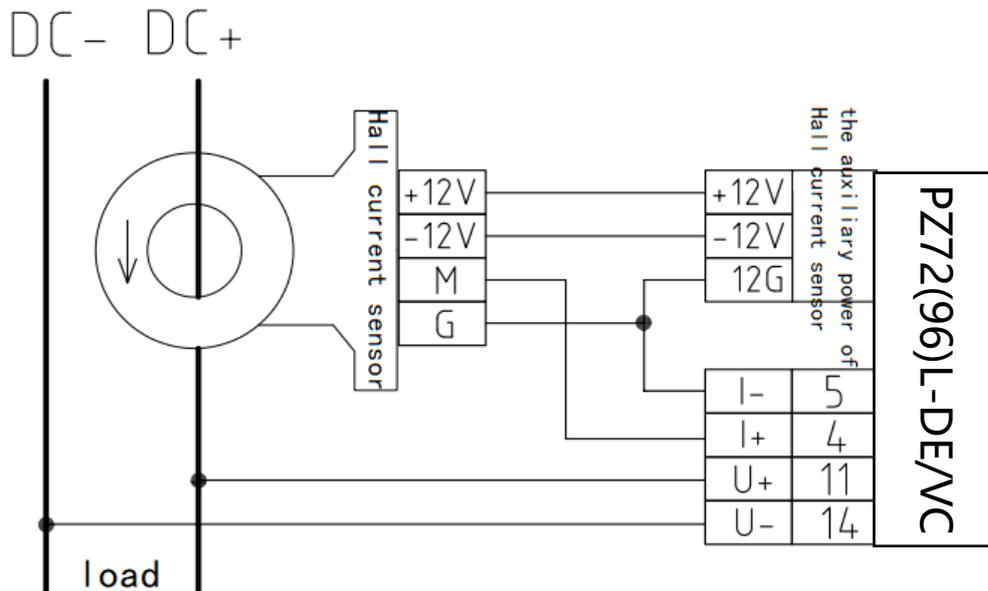

Figure 5 Typical wiring diagram of Hall current sensor
(二) When the Hall current sensor is used to sample the current, the wiring between the Hall current sensor (powered separately) and the instrument is shown in Figure 5:
**Note:** Figure 5 is a typical wiring diagram of the Hall current sensor for reference only. If it is inconsistent with the actual wiring diagram of the Hall current sensor, please refer to the wiring diagram shown in the manual of the actual Hall current sensor.